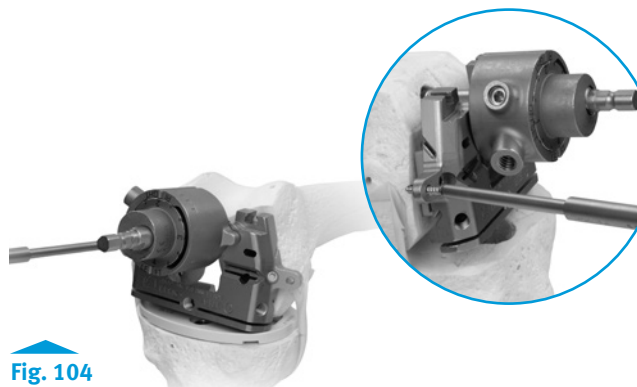

Fig. 104
- Secure the cutting block to the femur with two Hex-head Screws (Fig. 104).
Note: Use the inside screw holes for all primary cases that do not require Distal Femoral Augments. Use the outside screw holes if 5mm or 10mm Distal Femoral Augment Provisionals are used (Fig. 104).